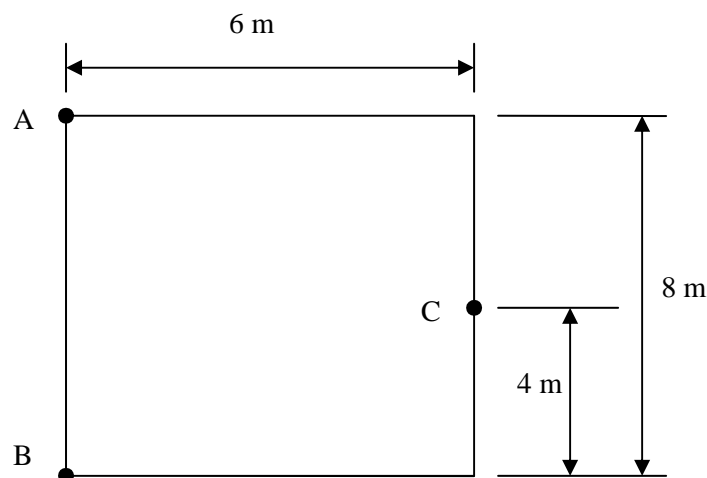

Fig Q8
- (a) the energy gained by the flywheel during the accelerating period; (8)
- (b) the number of revolutions necessary to increase the speed of the engine from 120 rev/min to 360 rev/min. (8)
8. The lock gate shown in Fig Q8 is supported by two hinges at A and B at one side, and by a single catch at C on the opposite side. The fresh water in the lock is at a level of 5 m upstream of the gate and at a level of 3 m downstream of the gate.